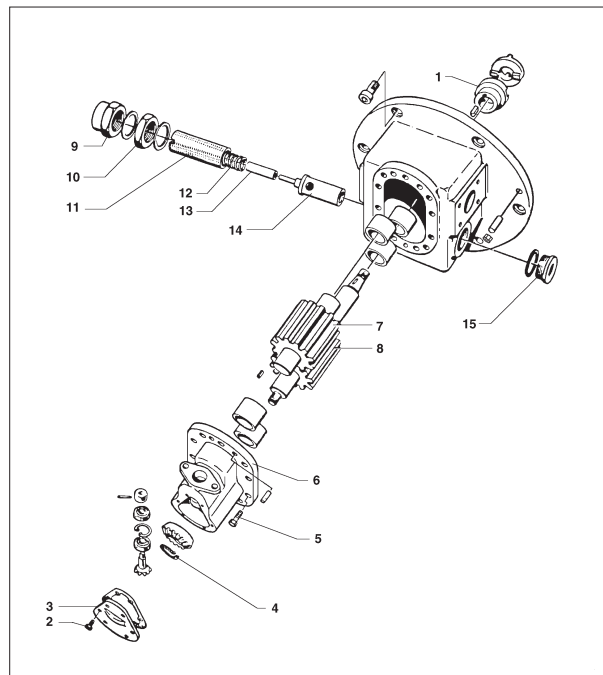

Fig. 2.
- Dimension of the flexible connection, see pipe diameters Fig 2.
- Dimension of the ventilation pipe after the flexible connection, see pipe diameters Fig 2.
- 1) Remove the coupling part or gear wheel (1), see fig. 2, by means of a puller or a soft hammer.
- 2) Remove screws (2) and dismount the cover (3).
- 3) Dismount the locking ring (4), screws (5) and remove the cover (6) with the overspeed device.